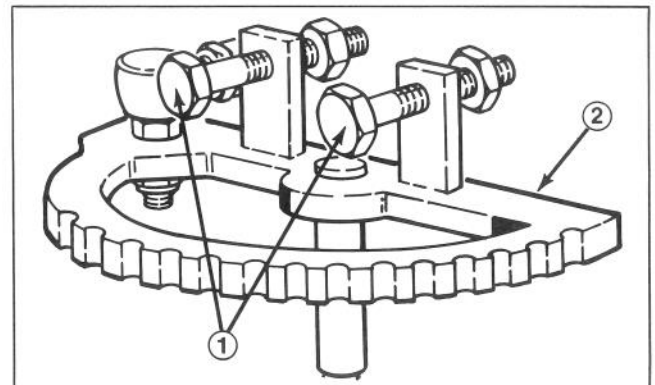

Figure 39
ADJUSTING STEERING STOPS (Fig. 39)
1. Loosen locknuts securing stop screws to tabs on steering sector (Fig. 39).